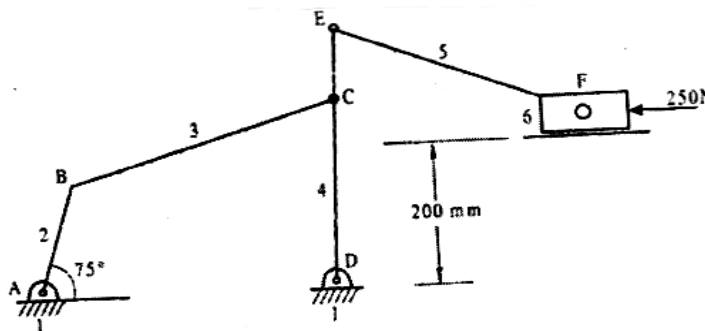

Figure-2
- b. For the static equilibrium of the mechanism shown in Figure-2, find the required input torque. The dimensions are AB = 150 mm, BC = AD = 500 mm, DC = 300 mm, CE = 100 mm and EF = 450 mm.